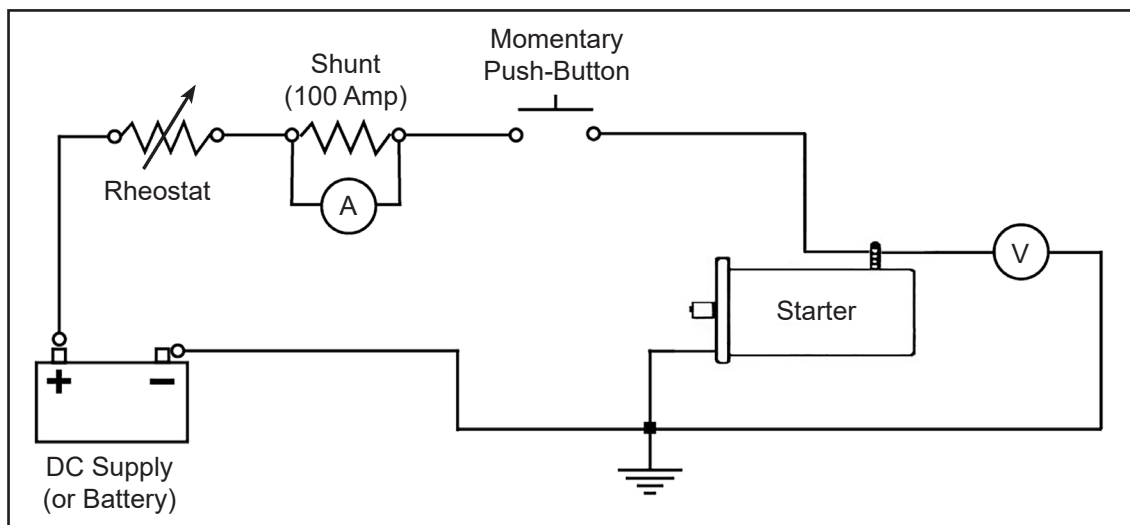

Figure 5.1 – Starter Test Set-up
- (1) Fabricate the test set-up as shown in Figure 5.1.